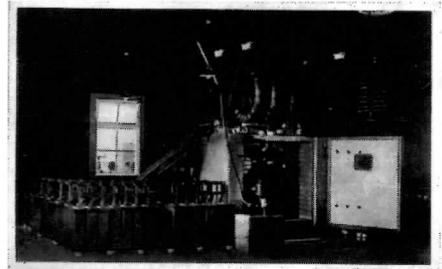
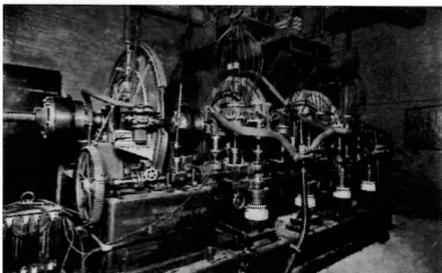

Fig. 18 'Marconi Wireless Series. No 3. Transmitting Plant at Poldhu Wireless Station'. Unfranked.
Fig. 19 'Marconi Wireless Series. No. 6. CW Transmitter at the Marconi Transatlantic Wireless Station, Marion, Mass, USA'. Unfranked.
Jackson & Son of Grimsby became a limited company in 1914, and specialised in producing views of many towns and seaside resorts. There is one coloured view of the works in my collection, ironically printed in Saxony for Ernest Bucknall of Chelmsford, which was posted on 25 July 1917. This is rather a static view of the works and railway yard. The huge aerial masts obviously caused a lot of local interest as demonstrated by this close-up (Fig. 17) in the Kingsway Real Photo Series of W.H. Smith & Son, posted in 1914. This is probably the most common postcard of the Chelmsford works as it is the one found most frequently. Several of the others are now quite rare. The finest Marconi post cards in my collection were probably promotional ones issued in three sets in the early 1920s, entitled: 'Marconi Wireless Series of Picture Post Cards'. Each set of six is still in their original brown printed envelopes and retailed at 6d. The first set consists of: (1) Armoured Cruiser Equipped with a 25KW (1913) set; (2) Marconi 1.5 KW Ship Set. Interior of Silence Cabin; (3) Transmitting Plant at Poldhu Wireless Station (Fig. 18): showing the aerial tuning inductance jigger, condenser bank and disc chamber of the 60 KW synchronous spark transmitter; (4) Marconi Transatlantic Wireless Station at Caernarvon, Wales: general view; (5) Transmitting Jigger at the Marconi Transatlantic Wireless Station, Marion, Mass., USA; and (6) CW Transmitter (Fig. 19) at the above station. The second set consists of